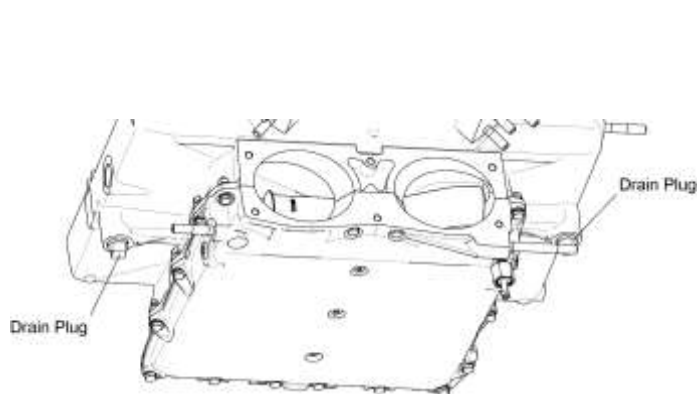
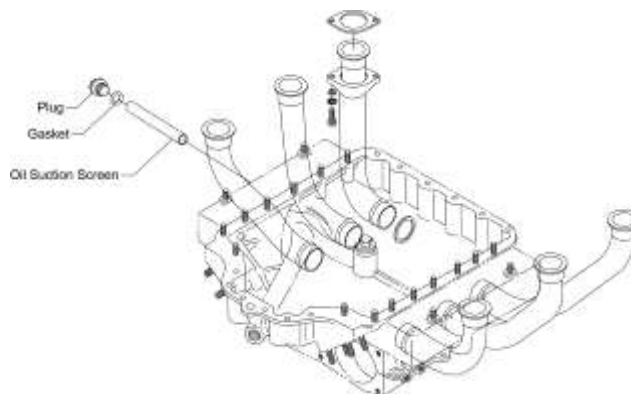

Figure 2
Figure 3
- (1) Put an empty 15-quart (14-liter) capacity container under the drain plugs of the oil sump.
- (2) Remove the safety wire from the square drain plugs and discard the safety wire/cable (Figure 2).
- H. Safety cable/wire the oil sump drain plugs (Figure 2), suction screen plug (Figure 3), and oil filter (if applicable) in accordance with the standard practices per the latest revision of AC43.13-1B or the latest revision of Service Instruction No. SI-1566.
NOTICE: On the TEO-540-C1A (Figure 3) engines there is an oil suction screen in the oil sump. Clean the oil suction screen and replace the oil filter after every 50 hours of engine operation, with each oil change (unless more frequent oil changes are necessary).
- A. Remove and discard the safety/cable wire/cable from the suction screen plug (Figure 3) and oil drain plugs (Figure 2) on the oil sump
- F. Before cleaning the oil suction screen (Figures 3 and 4), examine the oil suction screen for:
- (1) Deformation or openings in the mesh.
- (2) Metal particles, shavings or flakes trapped in the oil suction screen. Refer to the sections: "Identification of Metallic Solids After Oil Servicing" and "Visual Inspection of the Oil Filter Element and Oil Suction Screen" in this chapter.